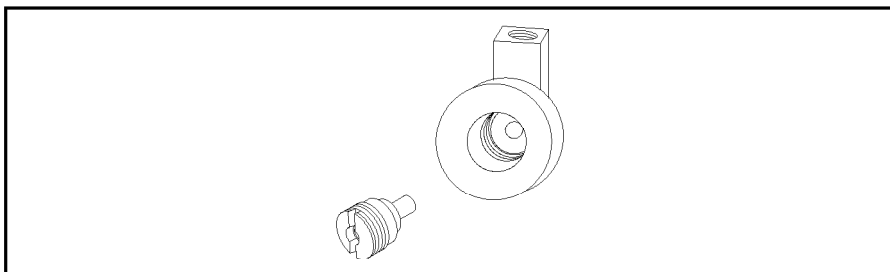

Figure 4-20. Screwing Assembled Cell Screw into Cell Piece
6. Using the slot screwdriver, screw the assembled cell screw into the cell piece, see Figure 4-20.